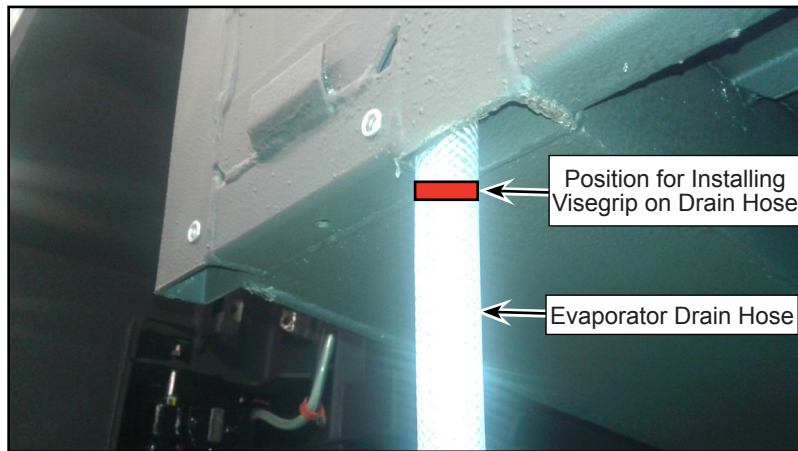

Figure 4 - Installation of Visegrip
- 1.6. Fix visegrip to hold the drain hose protruding from the structure as shown (see Figure 4).
- 1.8. Install kazoo (2474830) and cable tie (G5007994) on free end of the cut drain hoses, such that maximum 1.5 in. of kazoo should be protruding from the structure (see Figure 4).